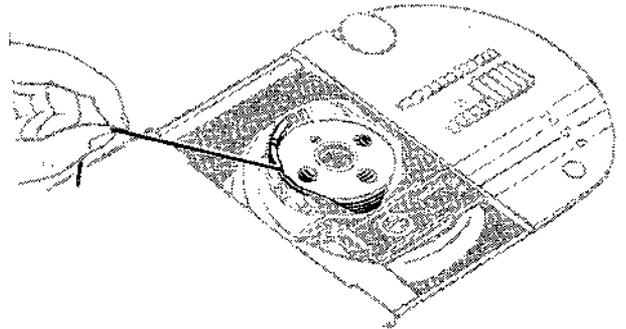

FIG. 32.
- Lead thread into slot and under spring as shown in Fig. 32.